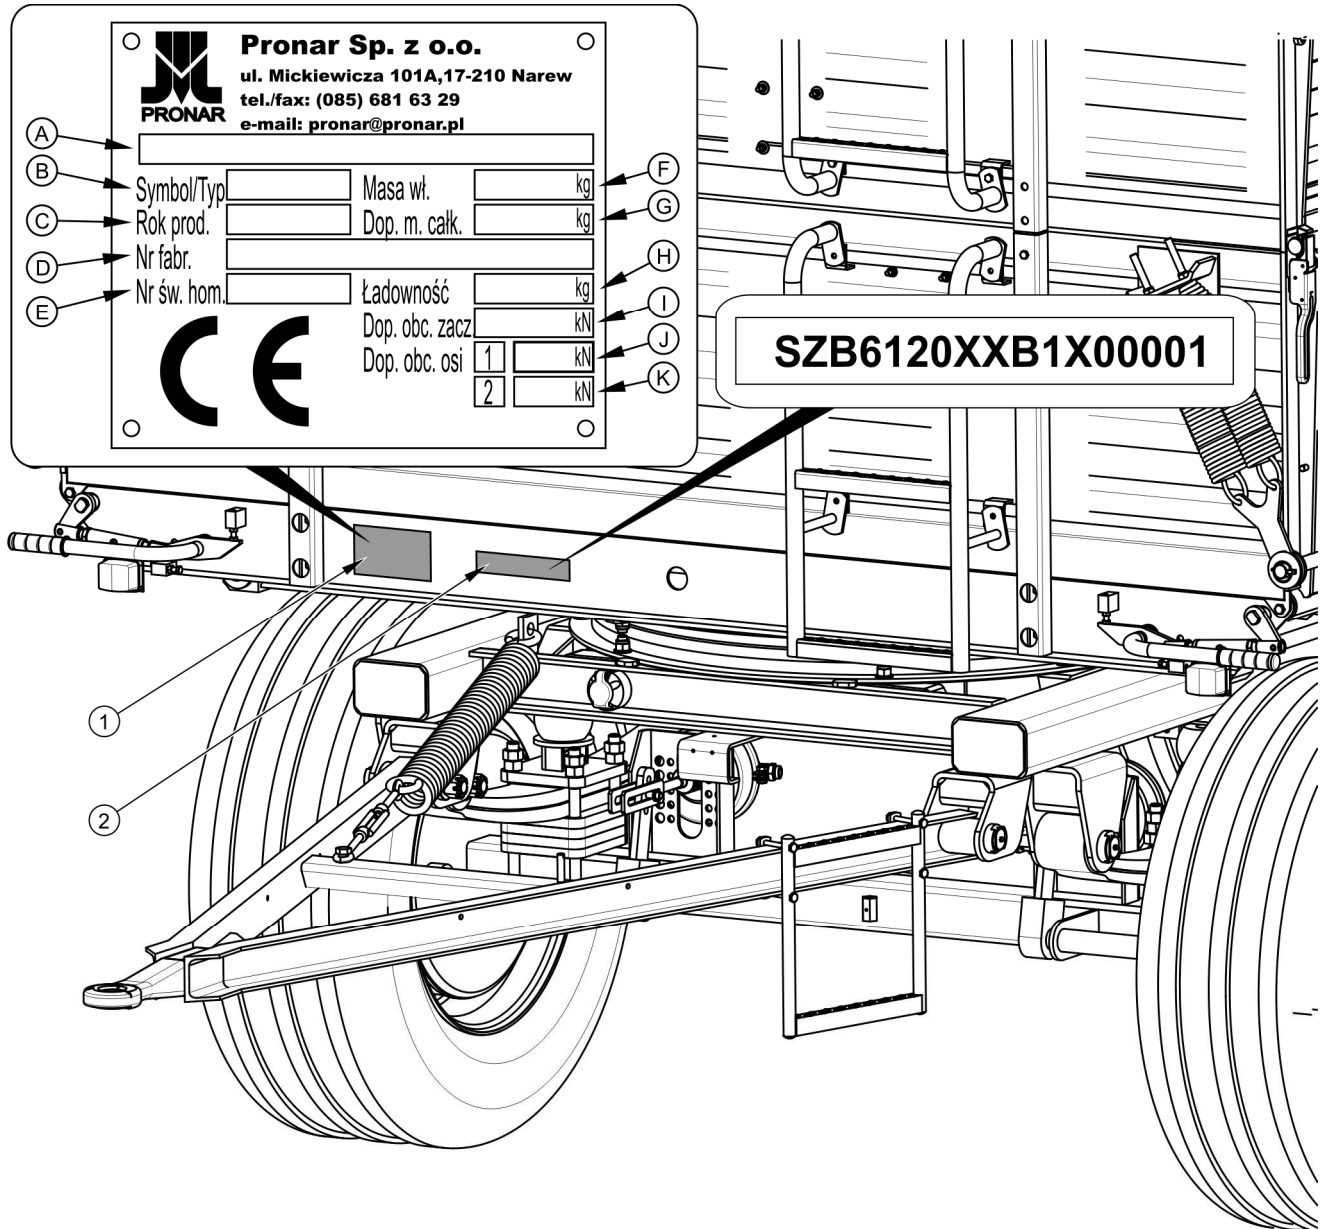

FIG. 1.1 Location of the data plate and serial number
(1) data plate, (2) serial number
The trailer is marked with the data plate (1), and the factory number (2) located on a gold painted rectangle. The serial number and data plate are on the beam of the trailer's upper frame (Fig. 1.1).